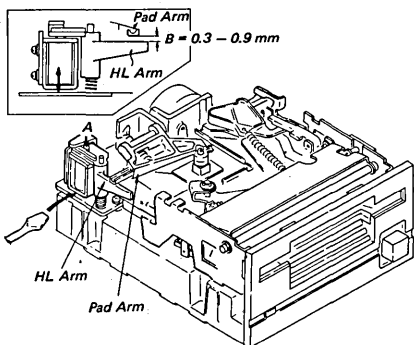

Fig. 5-9 HL Arm Height Adjustment
- d. Push down the plunger core of the head load ass'y at point A. (Refer to Fig. 5-9)
- e. Check if clearance B between the HL Arm and pad arm is set at a value within the range of 0.3 to 0.9 mm. (Refer to Fig. 5-9)
- b. Insert a ⊖ driver beneath the plunger solenoid and slowly push up the plunger solenoid until clearance B becomes the specified value. (Refer to Fig. 5-9)